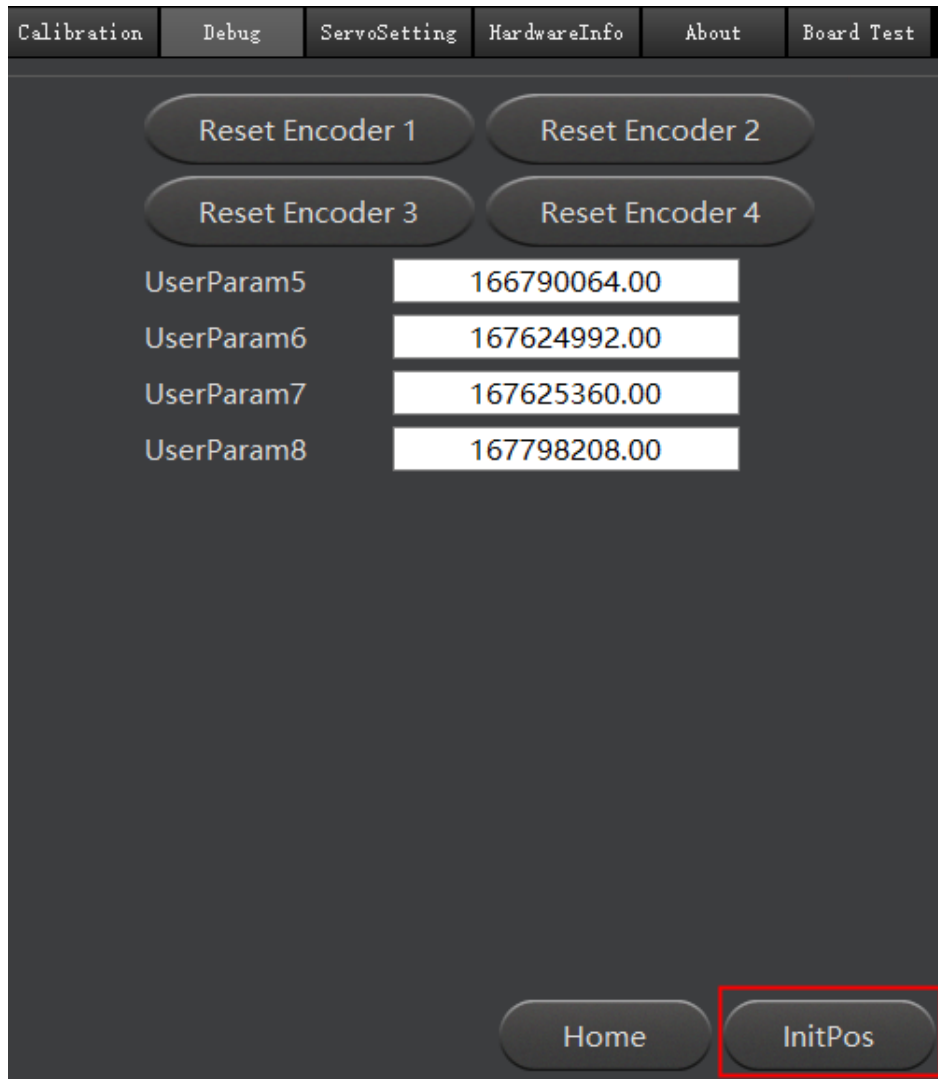

Figure 7.8 Initial the homing position
4. Click **InitPos** on the **Debug** page as shown in Figure 7.8, to make the Dobot M1 in the origin position of which the coordinate is (400,0,0,0).